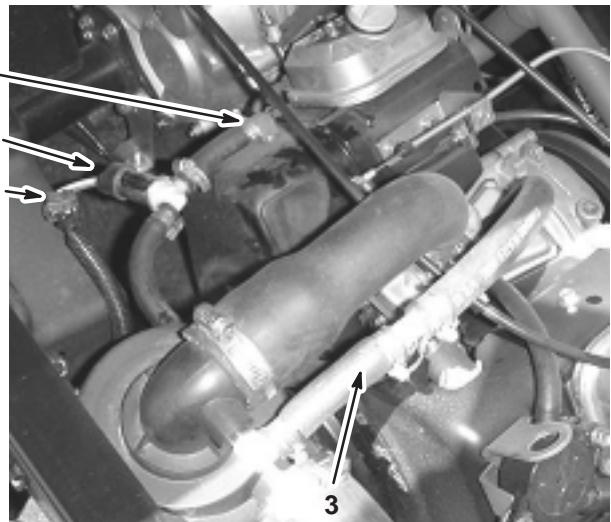

Figure 10
1. Disconnect the air valve wires from the wiring harness (Fig. 10).
2. Remove the breather hose, air valve, and fitting illustrated in Figure 10.